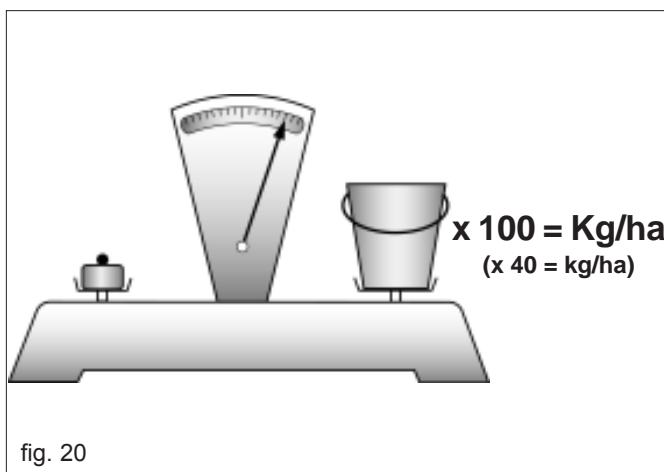

fig. 20
- 7) Weigh the seed collected in the trays and multiply the weight by 100 or 40, depending on the number of rotations made. The value obtained is the number of kilograms distributed per hectare (Fig. 20).
- 8) Weigh the quantity collected in the trays and multiply the weight by 100 or by 40 according to the rotations carried out. The figure obtained will be the quantity in kilograms distributed per hectare (Fig. 20).